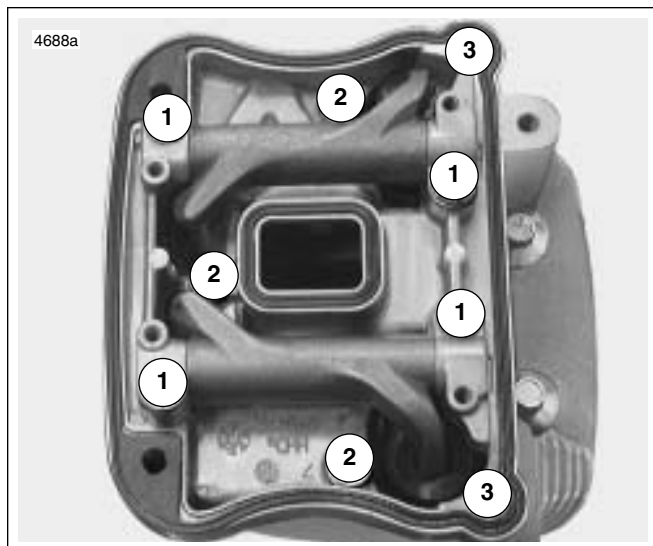

Figure 3-85. Lower Rocker Box Fasteners
9. See Figure 3-85. Install **new** gaskets with the bead facing up. Place lower rocker box assembly (with rocker
10. See Figure 3-85. Install hardware attaching lower rocker cover to cylinder head in the following order. After loosely installing all fasteners, use a cross pattern on the four large bolts that fasten the lower rocker box to head to tighten and then torque to specifications. This will bleed the tappets. Finish tightening remaining fasteners. Fastener sequences, sizes and torque specifications are listed in Table 3-21.
- a. Tighten bolts (1) to 18-22 ft-lbs (24-30 Nm).
- b. Tighten bolts (2) to 135-155 **in-lbs** (15-17.5 Nm).
- c. Tighten bolts (3) to 135-155 **in-lbs** (15-17.5 Nm).